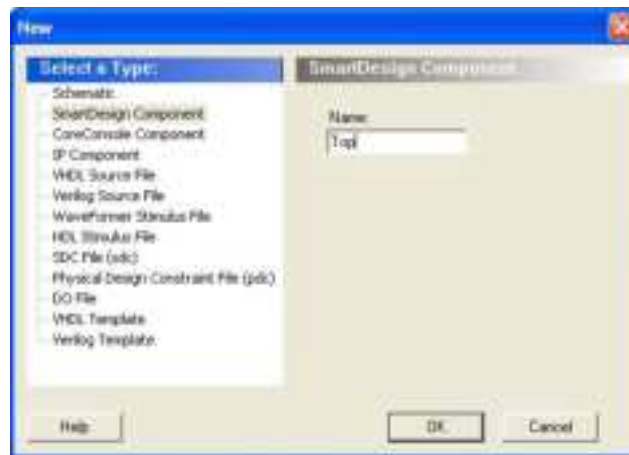

Figure 1-14 • New SmartDesign Component Dialog Box
- Enter **Top** in the name field and click **OK** to continue (Figure 1-14).